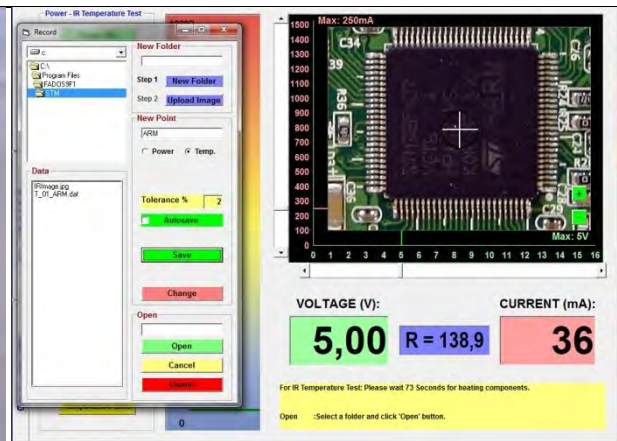

Figure 41: Recording the Temperature Data of the Component measured (Step 10)
9. When the Timer resets, the "Save" button is clicked to save the data (Figure 41)